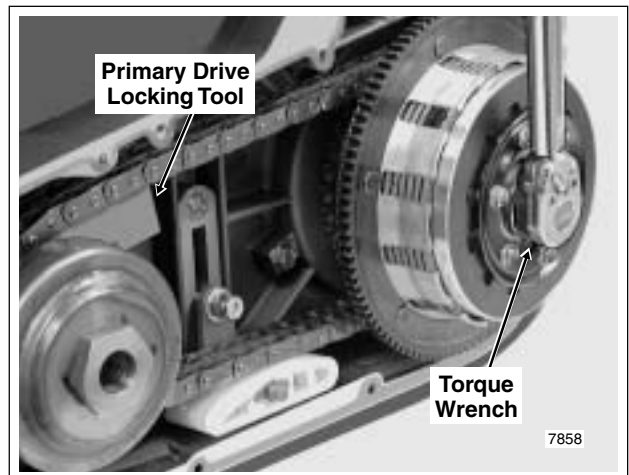

Figure 6-41. Place Primary Drive Locking Tool and Torque Clutch Hub Mainshaft Nut
14. Reverse the position of the primary drive locking tool. With the flat side against the upper strand of the primary chain, insert stepped side of tool into teeth of engine compensating sprocket. Using a torque wrench and 1-3/16 inch socket, tighten clutch hub mainshaft nut to 70-80 ft-lbs (95-108 Nm). See Figure 6-41.